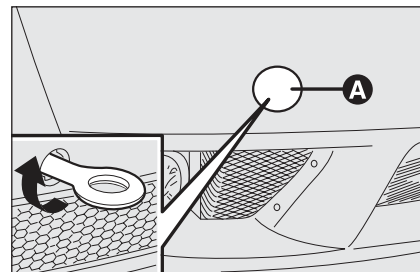

fig. 56
- ❑ remove the snap-fitted plug **A-fig. 56** from the front bumper. If using the flat blade screwdriver provided as standard, protect its tip with a soft cloth to prevent damaging the car.